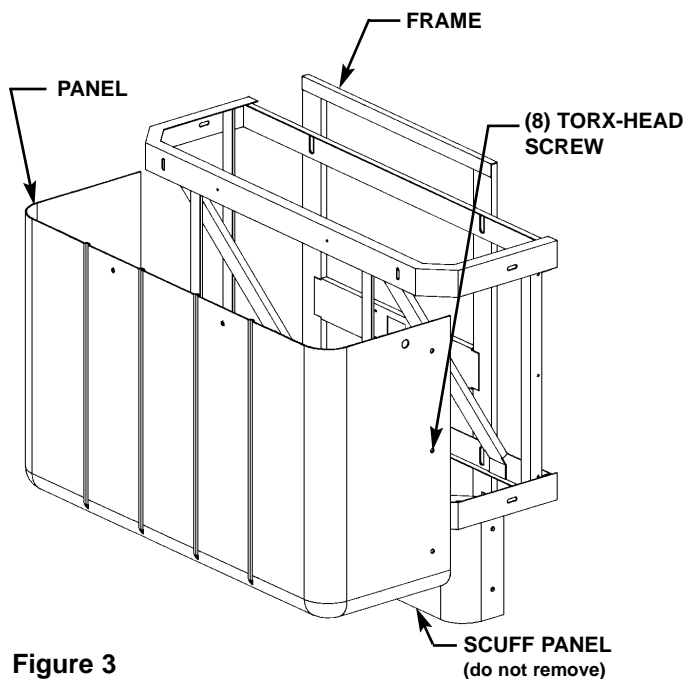

Figure 3
1. Remove the eight Torx-head screws securing the panel to the frame, and remove the panel (see Figure 3).